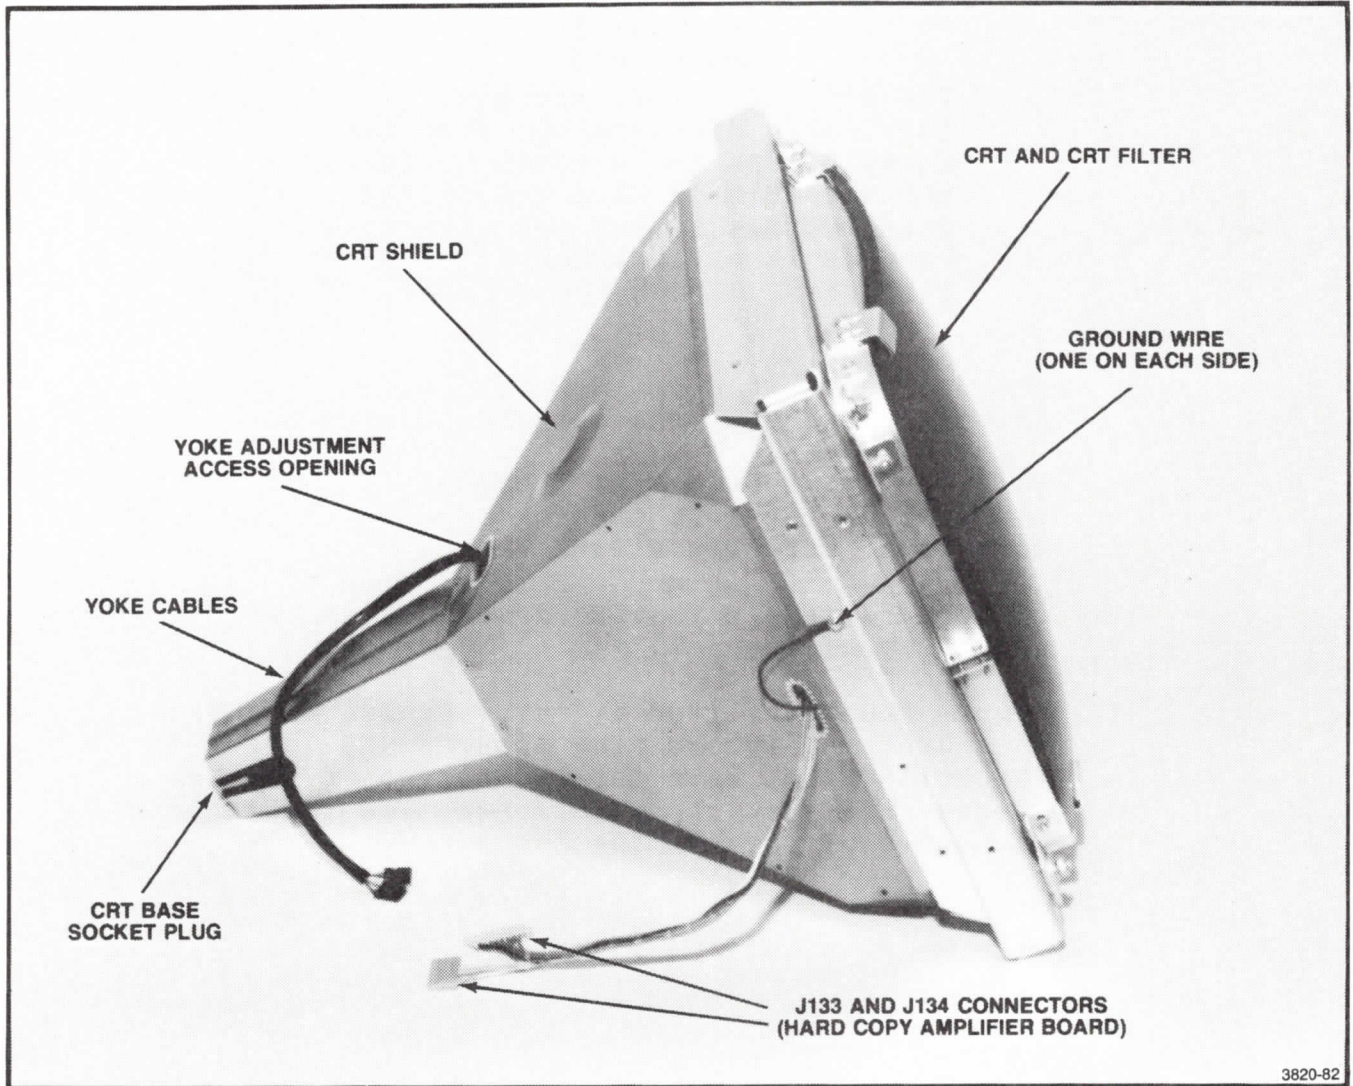

Figure 11-4. Crt Module.
9. Lift the crt module away from the chassis and place it on the soft cushion or foam pad prepared in step 2. See Figure 11-4.
13. Lift the crt shield straight up and off the crt, being careful to avoid the yoke adjustment nut. (See Figures 11-4 and 11-6.) Thread the socket wires and the cables through their respective holes.